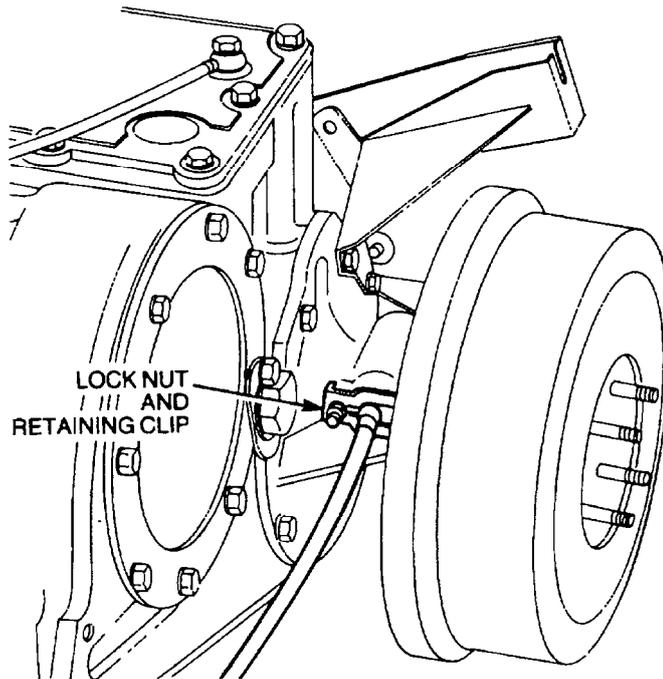

Figure 50 Speedometer Cable Removal
- v. Remove the locknut and retaining clip securing the speedometer cable to the transmission (Figure 50).